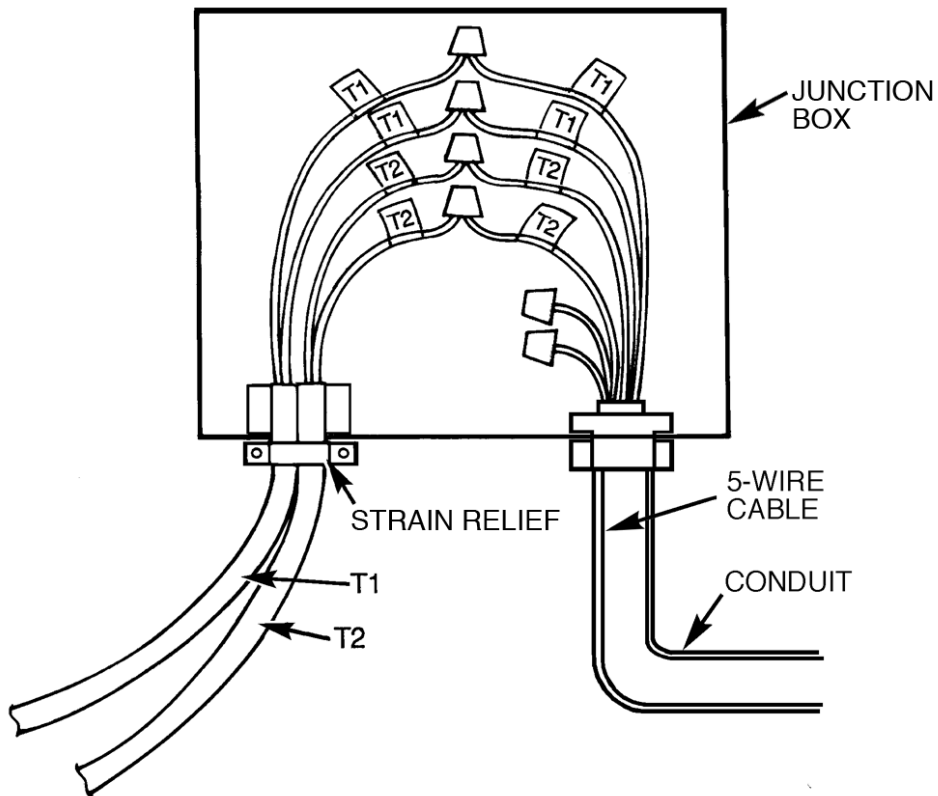

Fig. 9 – Typical Junction Box Connections
28. Run one end of the jacketed cable(s) into the junction box and splice the cable wires to the identically tagged thermistor leads. Solder the splices and insulate them to prevent shorting. Tighten the strain relief for the cable(s) and secure the junction box cover with the supplied M6 screws. Splicing for leads is shown in Fig. 9.